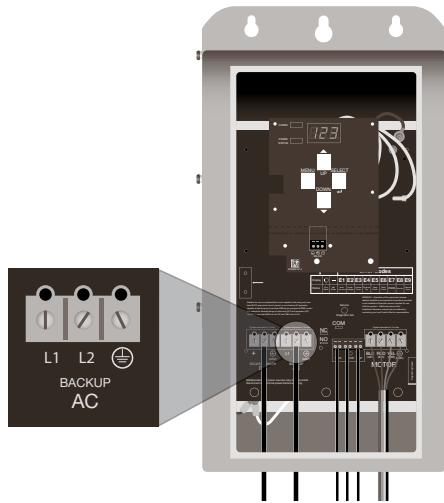

Figure 6: AC Wiring Connection
3. Connect the cables from the generator to the Terminal Block labeled “Back-up AC” and marked L1, L2, and GND (Figure 6) (Torque specification: 15 in-lbs/ 1.7 N-m).